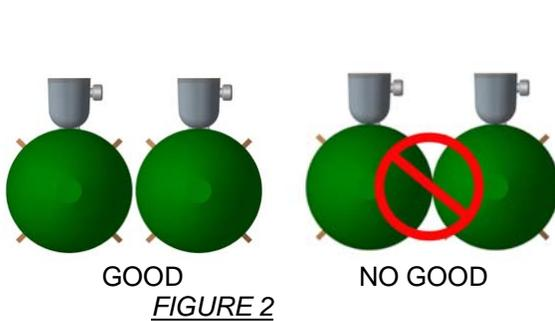
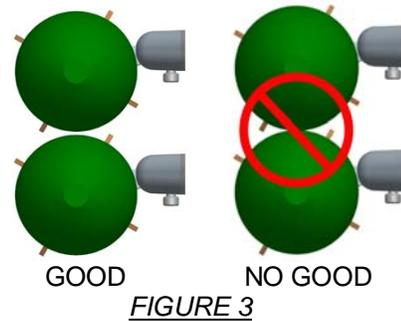

FIGURE 2
FIGURE 3
When multiple pylons are mounted next to each other ensure that there is enough space for each bomb so that they do not come in contact with each other (See Figure 2). When mounted vertically the bombs will be at a slight downward angle due to gravity. Again make sure that the bombs do not come in contact with each other or they may not release (See Figure 3). Route the wires from the release pylons to the location where the Electronic Release Module will be mounted. In the case of longer wire runs, servo lead extensions may be used. Connect each release pylon into the numbered pylon jacks one (1) through six (6). Make sure that the lower numbers are used first as the release sequence goes from one (1) to six (6) (See Figure 4).